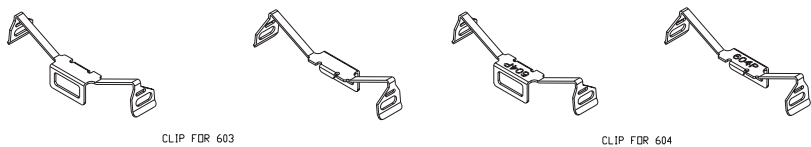

Figure 5-2a. Retention Clips (left: 603-pin, right: 604-pin)
5. Secure the heatsink by locking the retention clips into position. When correctly installed, the clips should *click* into place and the three black tabs on the CPU retention pieces should protrude fully through the corresponding holes on the retention clips. See Figures 5-2a and 5-2b for diagrams of the retention clips and the heatsink installation procedure.